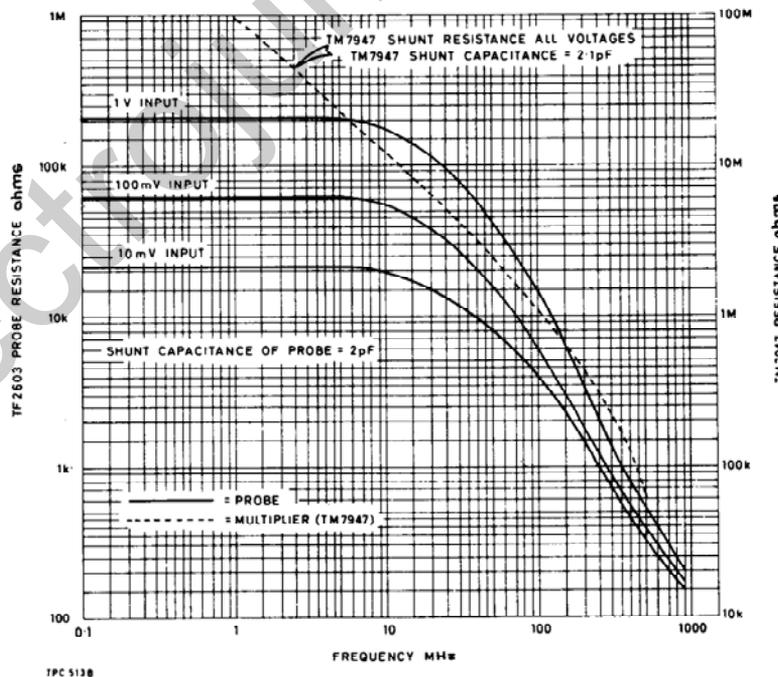

Fig. 4 Probe and multiplier input resistance (typical)
23. The probe presents to the source under test a capacitance of less than 2.5 pF and a shunt resistance which varies with frequency and voltage. Fig. 4 shows typical resistance variation with frequency and voltage.
41. Fig. 4 shows typical variations of input resistance when using Multiplier TM 7947.